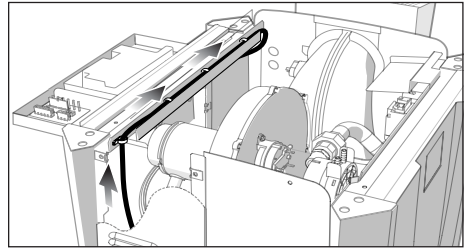

Figure 13. Bypass Harness Routing
3. Route the wire along the interior of the heater and behind the high voltage raceway. See Figure 13.
2. Connect the quick connect 4 terminal connector GR/BK, B/BK, PK, and PK at the board position Bypass (27 & 28). See *Figure 13 (bypass)*.